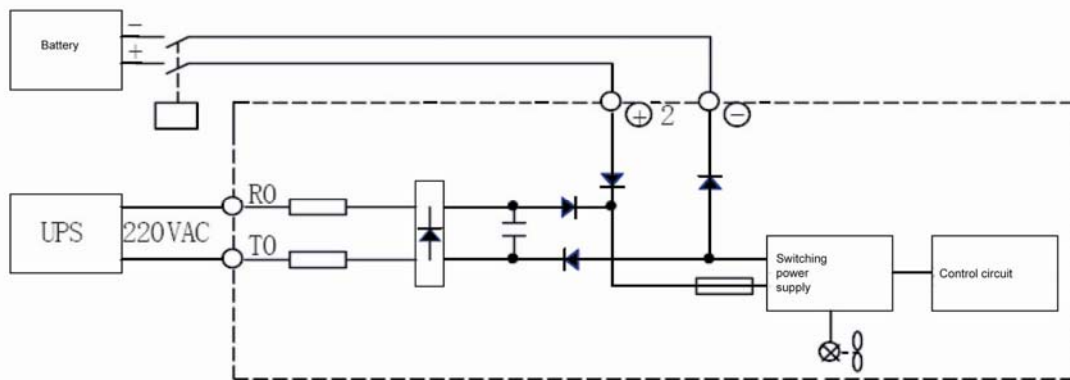

Fig. 3.6 Emergency Power and Battery Wiring Diagram in Case of Power Failure
- b) During normal operation of the elevator, AC 220V of UPS as always connects with terminals R0 and T0 of the drive controller. See Fig. 3.6 for the connection of emergency power supply.
- b) In the case of power failure, see Fig. 3.6 for UPS and battery connection.